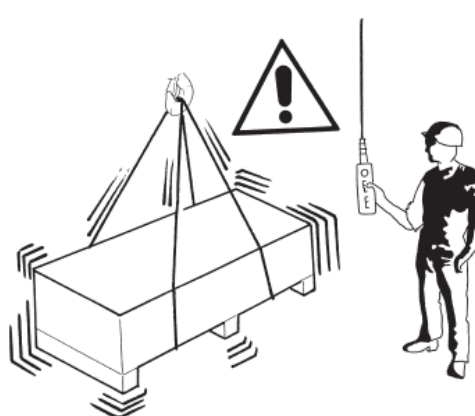

fig.68
- ▶ **ALWAYS** avoid combining movements by simultaneously pressing the lifting and traversing buttons and take care not to cause the load to swing (fig. 68).